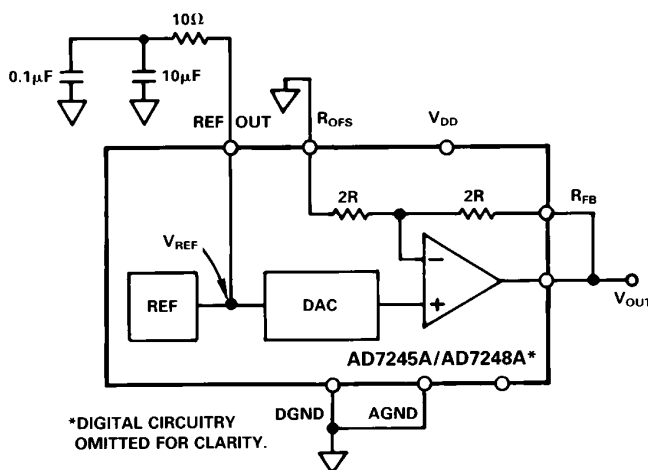

Figure 8. Unipolar (0 to +10 V) Configuration
*REFERENCE DECOUPLING COMPONENTS AS PER FIGURE 8
The first of the configurations provides an output voltage range of 0 V to +10 V. This is achieved by connecting the bipolar offset resistor, R_{OFS} , to AGND and connecting R_{FB} to V_{OUT} . In this configuration the AD7245A/AD7248A can be operated single supply ($V_{\text{SS}} = 0 \text{ V} = \text{AGND}$). If dual supply performance is required, a V_{SS} of -12 V to -15 V should be applied. Figure 8 shows the connection diagram for unipolar operation while the table for output voltage versus the digital code in the DAC latch is shown in Table III.